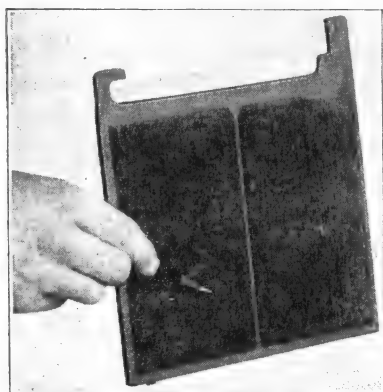

Fig. 20. A Planté Plate, Showing the Ridges and Grooves Produced in the Plate
**A Modern Planté Battery.** An interesting battery on the present-day market is the one which the Gould Storage Battery Corporation call their Planté battery. The interesting feature of this battery is its use of a Planté-type positive plate, and a Faure-type negative plate. Through an intricate process, the Gould Corporation has been able to produce a pure lead one-piece positive plate of the Planté type that has an exceptionally long life. See Fig. 20. This process is